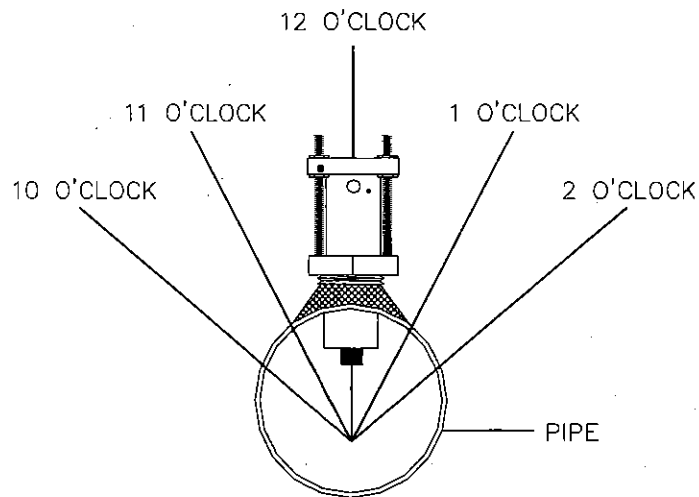

Figure 1-4 Allowable Installation Angle (Model 400 sensor shown)
- If installing in a horizontal pipe, mount the sensor at the top of the pipe in the 12 o'clock position, allowing no air gaps or sediment. If the sensor cannot be mounted at the top of the pipe, it can be mounted at an angle between the 10 o'clock and 2 o'clock positions (Figure 1-4). If installing in a vertical pipe, ensure that the flow is in the upward direction.